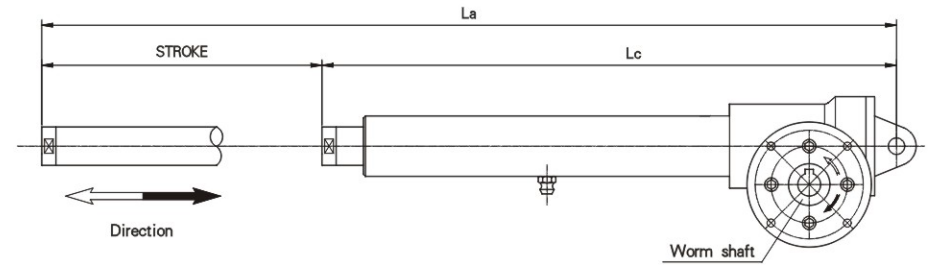

Fig. 1.1 Minimum - L_c and Maximum - L_a
ATTENTION: Do not set the length of the actuator over its extreme values (Minimum - L_c and Maximum - L_a , see Fig. 1.1)
1.3.2 See Fig. 1.1, to clarify the relationship of the input shaft rotation direction with pushrod linear movement direction.